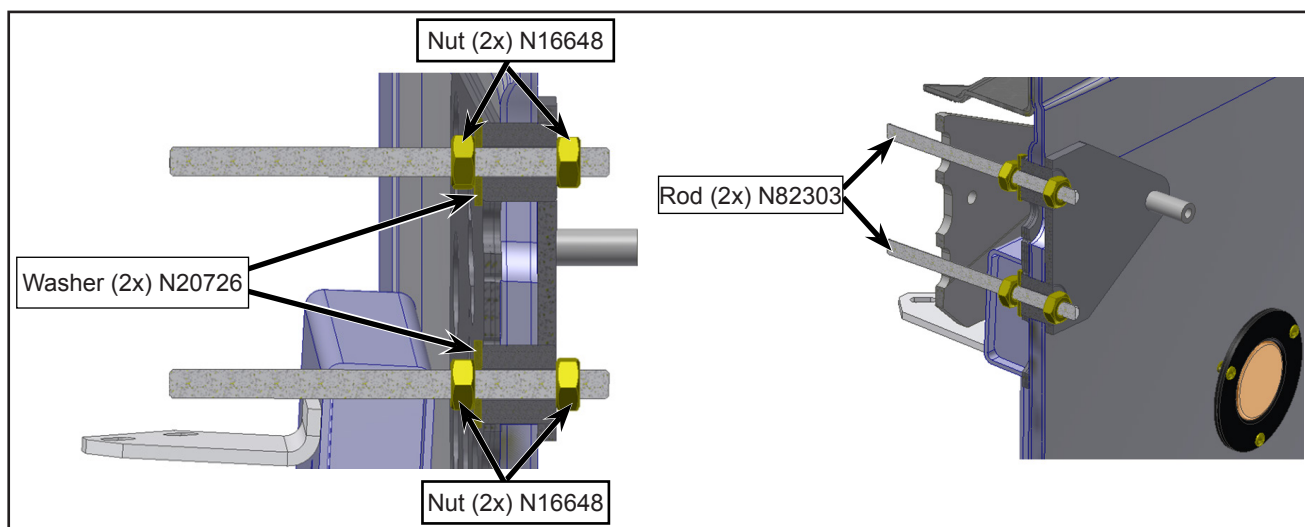

Figure 12 - Sectional View of Jig Kits
- 1.13. Place exterior jig N83964 and insert threaded rod N82303 with nuts N16648 and washers N20726 (see Figure 12).